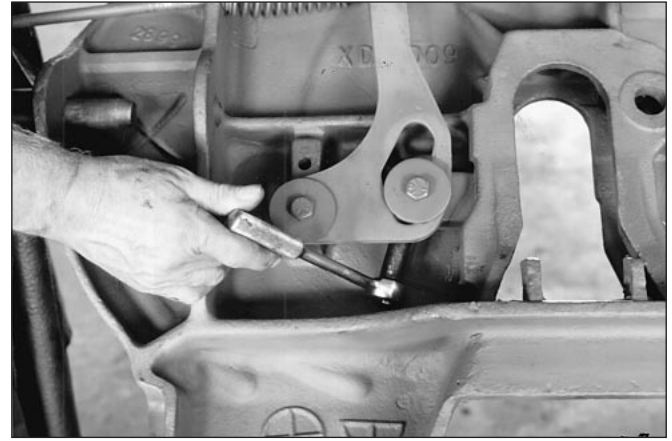

Figure 7
12. Using a 3/8" square deep well socket, securely tighten the set screw (*ITEM 3*) in the plunger (see *Figure 7 above*).
12. Using a 3/8" square deep well socket, securely tighten the set screw (*ITEM 3*) in plunger (see *Figure 7*).